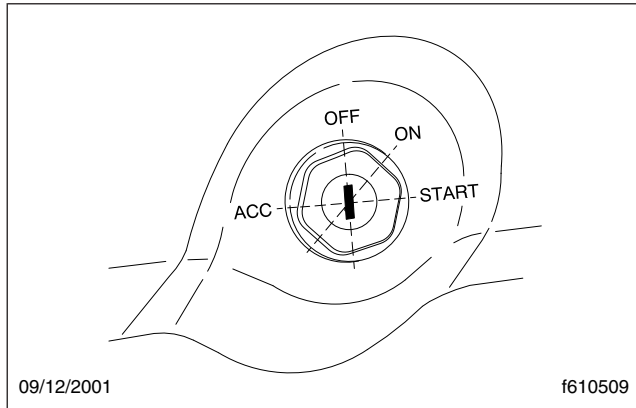

Fig. 19.7, Ignition Switch Positions
- Without starting the engine, turn the ignition switch to the ON position (**Fig. 19.7**). The electronic gauges on the instrumentation control unit (ICU) will complete a full sweep of their dials, the warning and indicator lights will illuminate, and the buzzer will sound for three seconds.